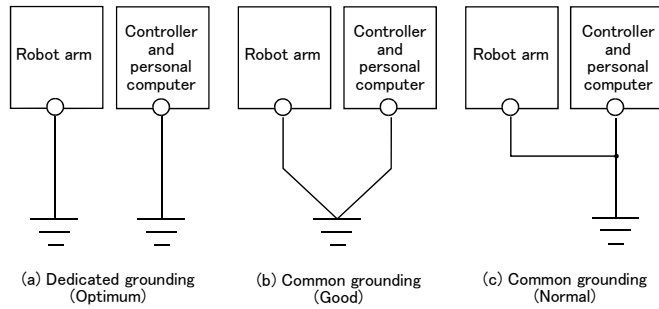

Fig.2-4 : Grounding methods
1) There are three grounding methods as shown in Fig. 2-4 , but the dedicated grounding (Fig. 2-4 (a)) should be used for the robot arm and controller when possible. (Refer to the separate "Controller setup, basic operation, and maintenance" for details on the controller grounding.)